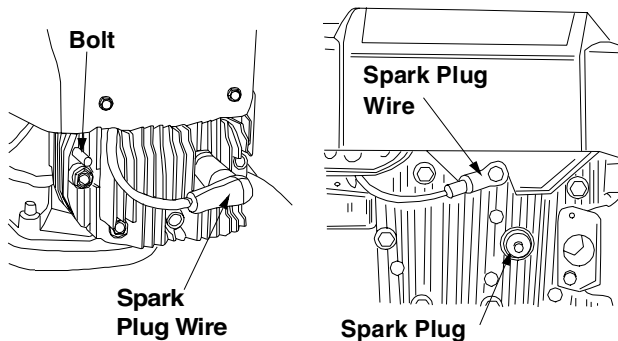

Figure 1
- Before setting up your lawn mower, disconnect the spark plug wire from the spark plug and ground against the engine. See Figure 1.